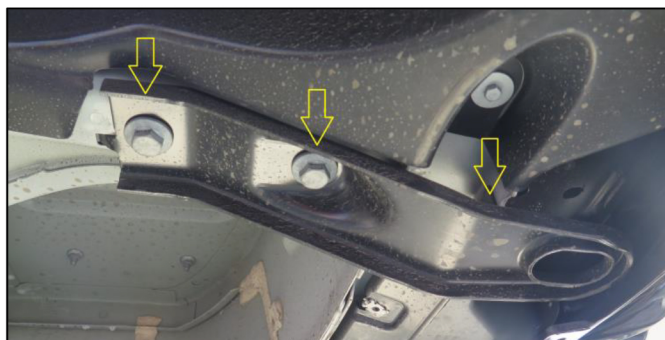

Fig. 2: Disassemble the towing device
5. Remove the rear towing device from the vehicle (fig. 2). This cannot be used after the rear skirt has been installed.